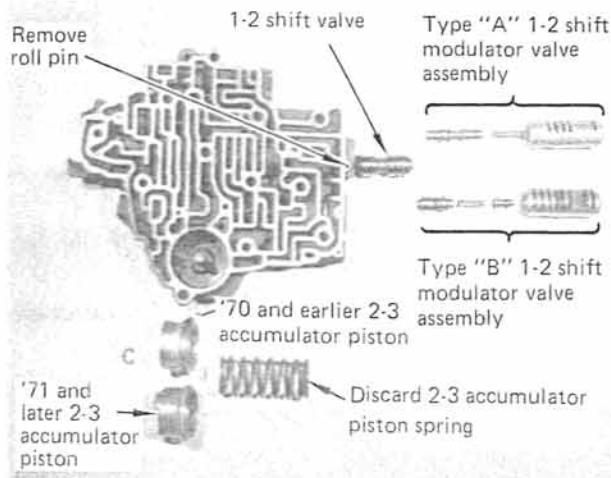

FIGURE 30
**STEP 1.** Place the valve body on the bench with the channel side up. Remove the roll pin holding the 1-2 shift modulator valve sleeve in place. (See Fig. 30) Remove the sleeve carefully. This may require a little prying with a small screwdriver. Try not to raise any burrs during removal. Also remove the 1-2 shift valve at the bottom of the bore.
Install the 1-2 shift valve into the bore with the smallest diameter pointing out. (See fig. 30) Reinstall the 1-2 shift
**STEP 2.** Very carefully clamp the valve body in a vise with smooth jaws and compress the accumulator enough to remove the E-clip with a screwdriver. (See Fig. 32) Open the vise slowly and remove the valve body. Remove and discard the accumulator spring underneath the piston. Install the piston as removed. (See Fig. 30) Install the E-clip.